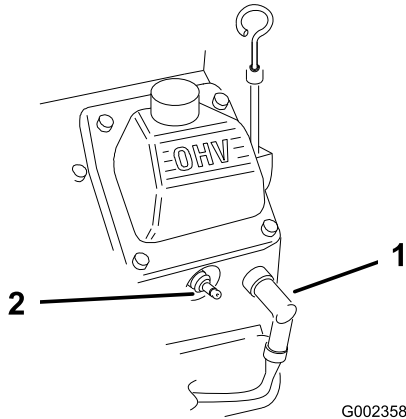

Figure 24
2. Disconnect the wires from the spark plugs (Figure 24).
3. Connect the wires to the spark plugs (Figure 24).